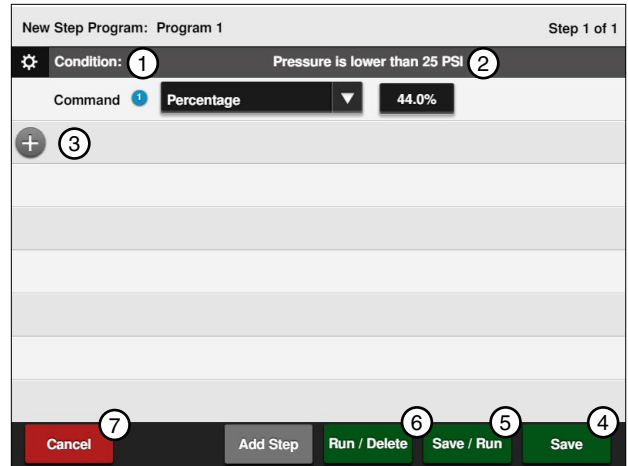

Figure 115-1 1. Percent Condition 5. Save / Run
4. Enter the command to be executed when the water pressure drops below 25 PSI. Refer to Figures 115-1.
5. Finish the program by selecting one of the following. Refer to Figure 115-1.